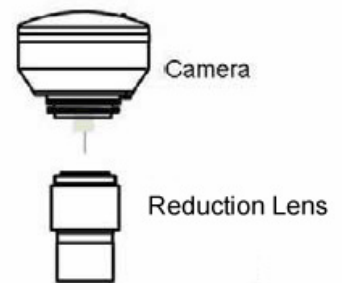

Figure 7
- 1) Remove the plastic photo tube port cover on the top of the viewing head (3).
- 2) Thread the photo tube (11) on to the trinocular viewing head (3).
- 3) Thread the reduction lens on to the camera (1) as shown in Figure 7.
- 4) Insert the camera (1) into the photo tube (11).